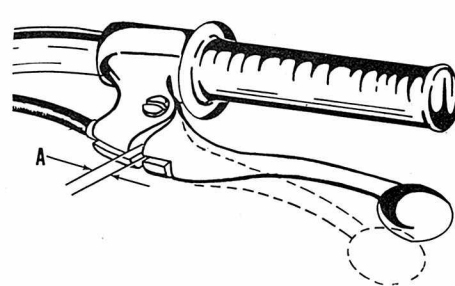
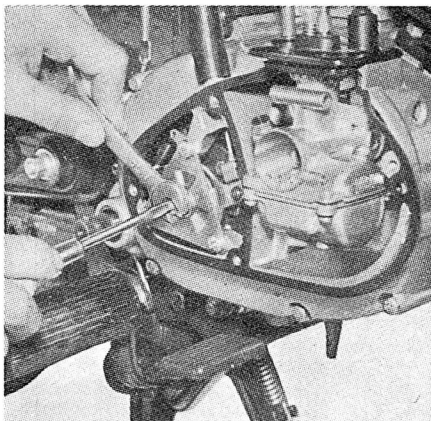

Fig. K1-6—Clutch hand lever free play is measured at A.
Fig. K1-8—When adjusting clutch, loosen adjuster screw 1/4-turn from point of resistance.
**CLUTCH CONTROLS.** The clutch is located on right end of transmission input shaft. The hand lever should have 2-3 MM (0.08-0.12 in.) free play as measured at (A—Fig. K1-6). Ad-
justment is accomplished by first loosening the cable adjuster lock nut (Fig. K1-7), then removing right (carburetor) cover. Turn adjusting screw in, as shown in Fig. K1-8, until slight resistance is felt. **DO NOT FORCE.** Back screw out 1/4-turn and tighten lock nut. Adjust cable (Fig. K1-7) until hand lever has 2-3 MM (0.08-0.12 in.) free play as shown in Fig. K1-6.